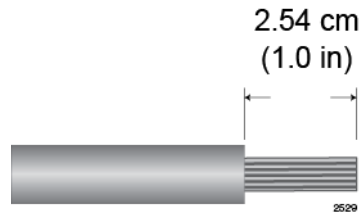

Figure 103. Stripping the solid or Stranded Grounding Wire
1. Prepare an adequate length of solid or stranded 10 AWG grounding wire by stripping it as shown in Figure 103.